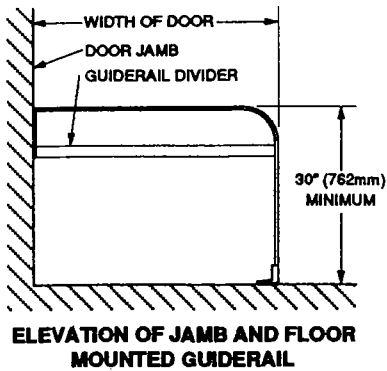

Figure 7
3. Guide Rails and Lock Stile - Check that guide rails or other barriers or separators are present (two per swing door side) and firmly anchored. (See Figures 7, 8, 9)